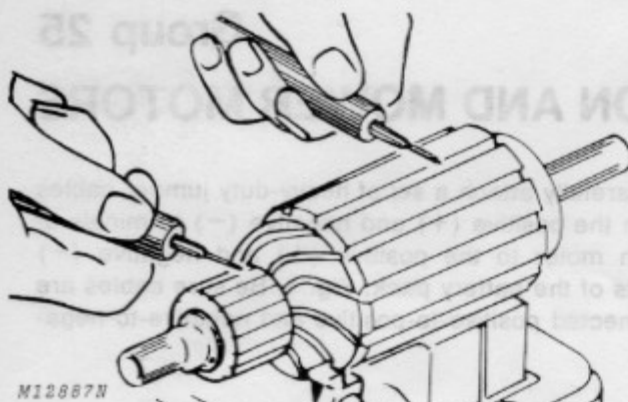

Fig. 3-Testing Armature for Grounds
2. **GROUNDS** - Grounds in the armature can be detected with a test light, Fig. 3. If the test light lights when one lead is placed on the commutator and the other lead on the armature core or shaft, the armature is grounded.